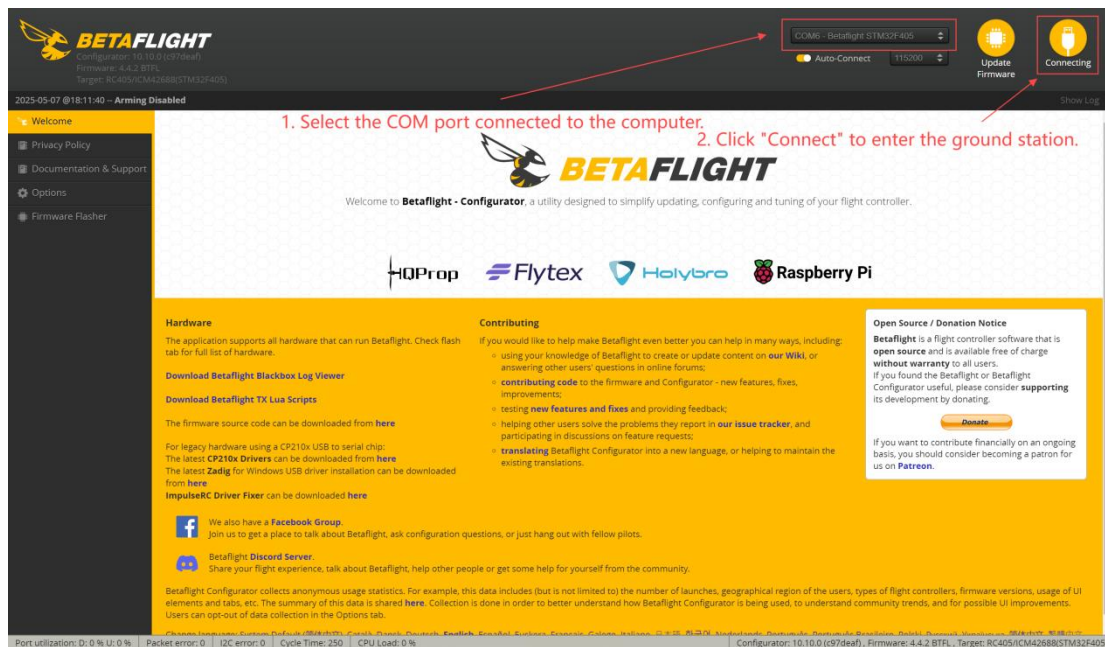

Fig 7.1.1 Connecting to BetaFlight
Step 1: Open BetaFlight, select the corresponding COM port, and then click "Connect", as shown in Figure 7.1.1.